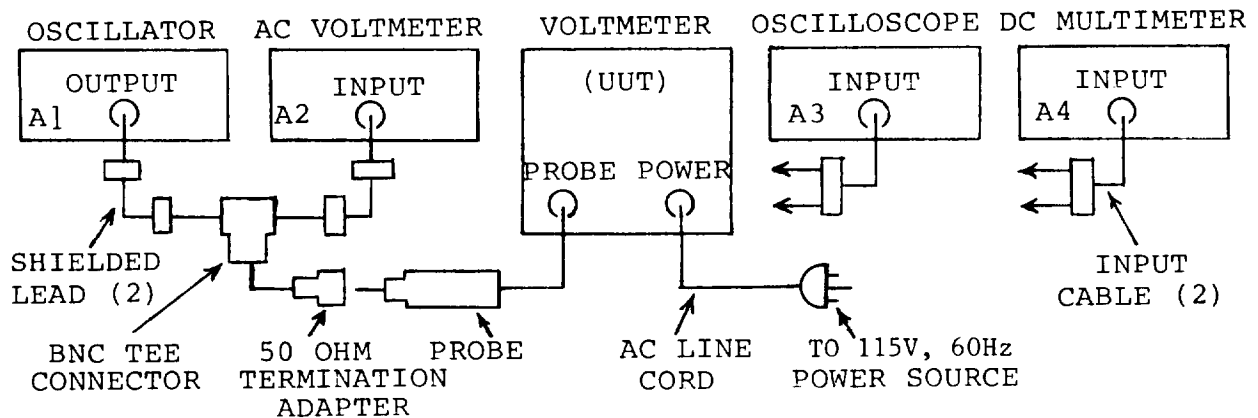

Figure 5-1. Maintenance equipment test setup.
- c. Test equipment set-up. A comprehensive test equipment set-up is shown in figure 5-1 below:
a. With the voltmeter properly shielded (see paragraph 5-2) switch to the 0.001V full scale range position. Connect the equipment as shown in figure 5-1. Adjust the oscillator frequency to 200KHz and the output level to 1mV as monitored by the AC voltmeter.
b. Locate on the amplifier board, link 3W3. Unsolder one (1) end of 3W3 from 3TP8.
- h. Disconnect the equipment as shown in figure 5-1.